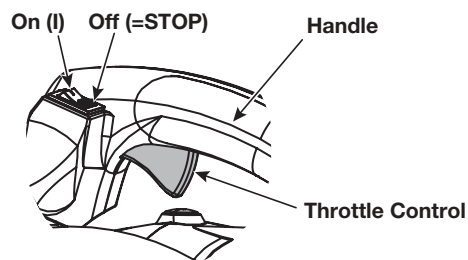

Fig. 5
NOTE: There is no need to turn the unit on. The On/Off switch is in the ON (I) position at all times (Fig. 5).
2. Press and hold the On/Off switch in the OFF (STOP) position until the engine comes to a complete stop (Fig. 5).